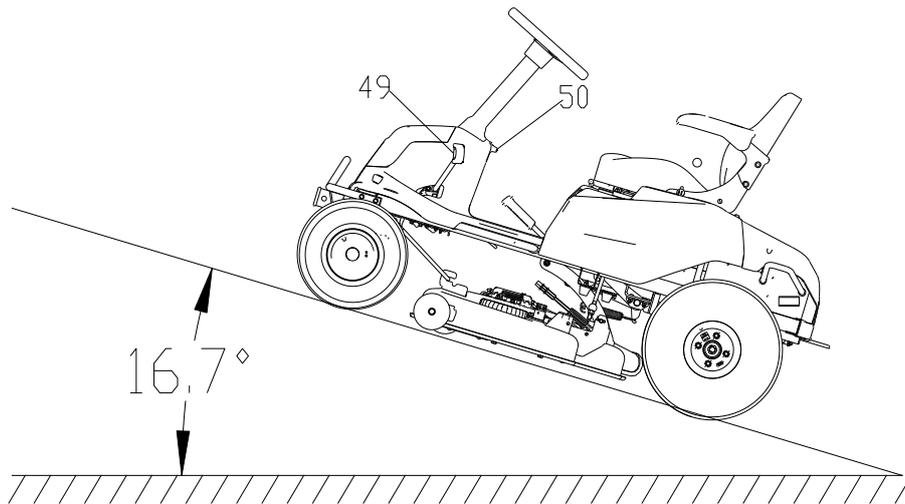

Fig. 10
1. As shown in Fig. 10, step on the brake pedal (49) and push down the parking lever (50). If the vehicle still moves down along the ramp, you need to move the vehicle to a level ground.